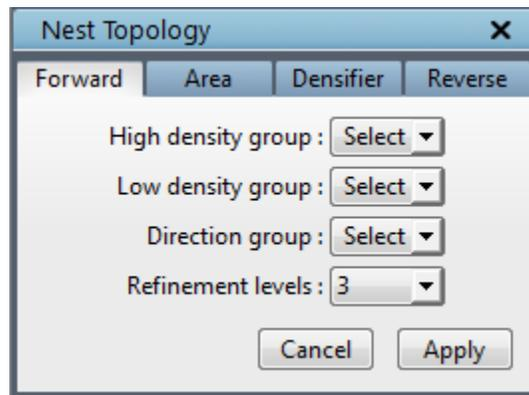
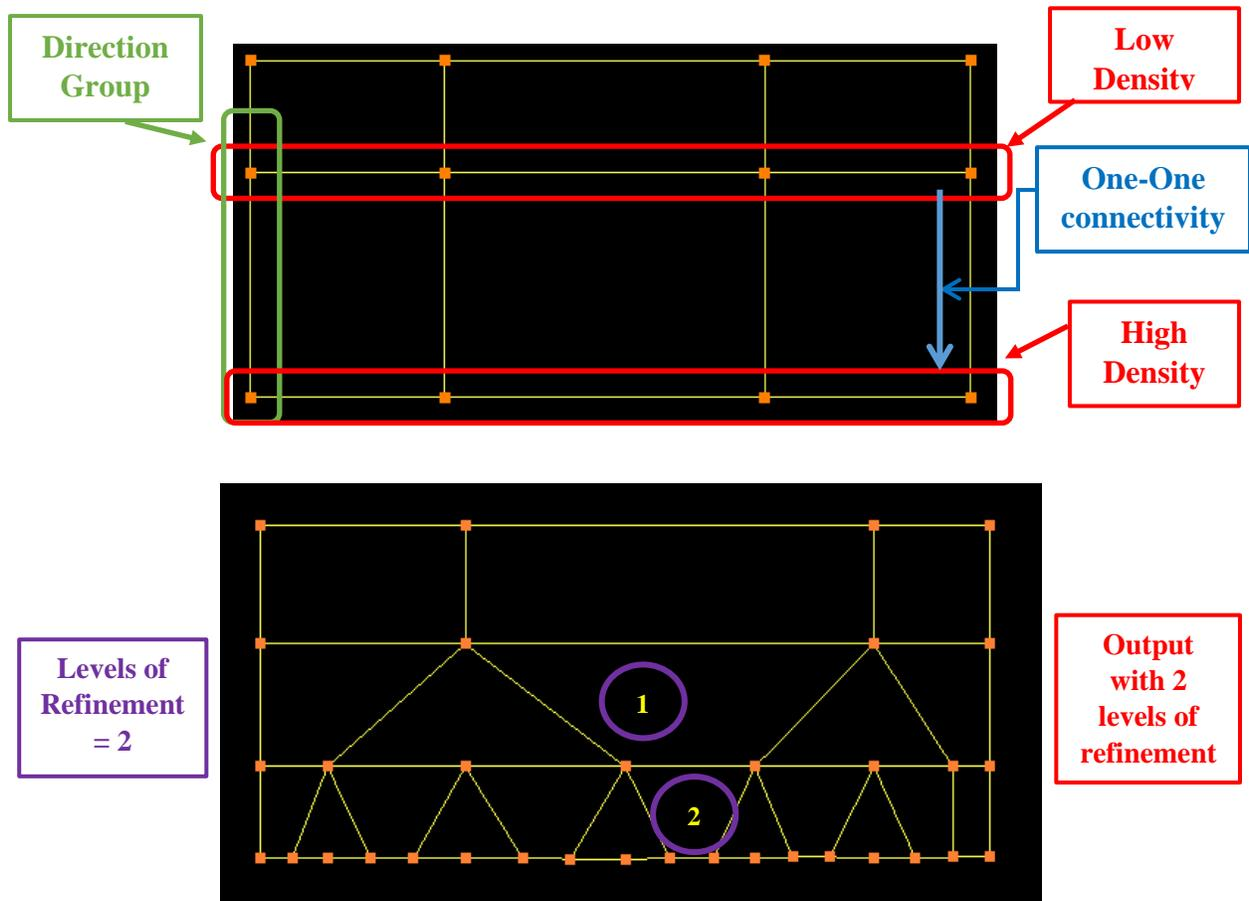

Figure 4.111: Nest dialog box
Figure 4.112: Nesting structure – Input & Output
Forward nest can be achieved only on a complete topology. You need to provide **high density group** i.e. where the density should be more, **low density group** i.e. where the density should be retained as original, **directional group** which guides the nest tool along which direction it has to be nested, mostly it's along the wrap direction and finally the **number of refinements** which decides the number of layers of nesting. Figure 4.112 shows how the nesting is done on a topology locally. You need to provide the group number in which each group has been grouped into in the respective fields. As you can see, for each layer three corners are substituted for each corner on the previous layer. Figure 4.111 shows the Nest topology dialog box.
2. There should be one-to-one connectivity between Low Density Group and High Density Group as shown in figure 4.112.
the general reverse nest omits the corners on the intersection of two boundary surfaces from reverse nesting. Enabling the check box of *extrude spherically* make the reverse nest to account the corners at the intersection of two surfaces. Figure 4.112 shows how the forward nest works, whereas reverse nest works in the opposite direction and in 2 directions similar to area nest.